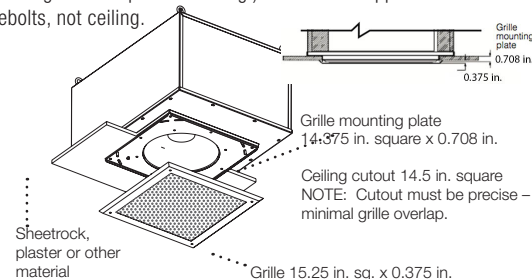

Fig. 3: Typical Wiring
- 1). TYPICAL WIRING METHOD (Fig. 3):